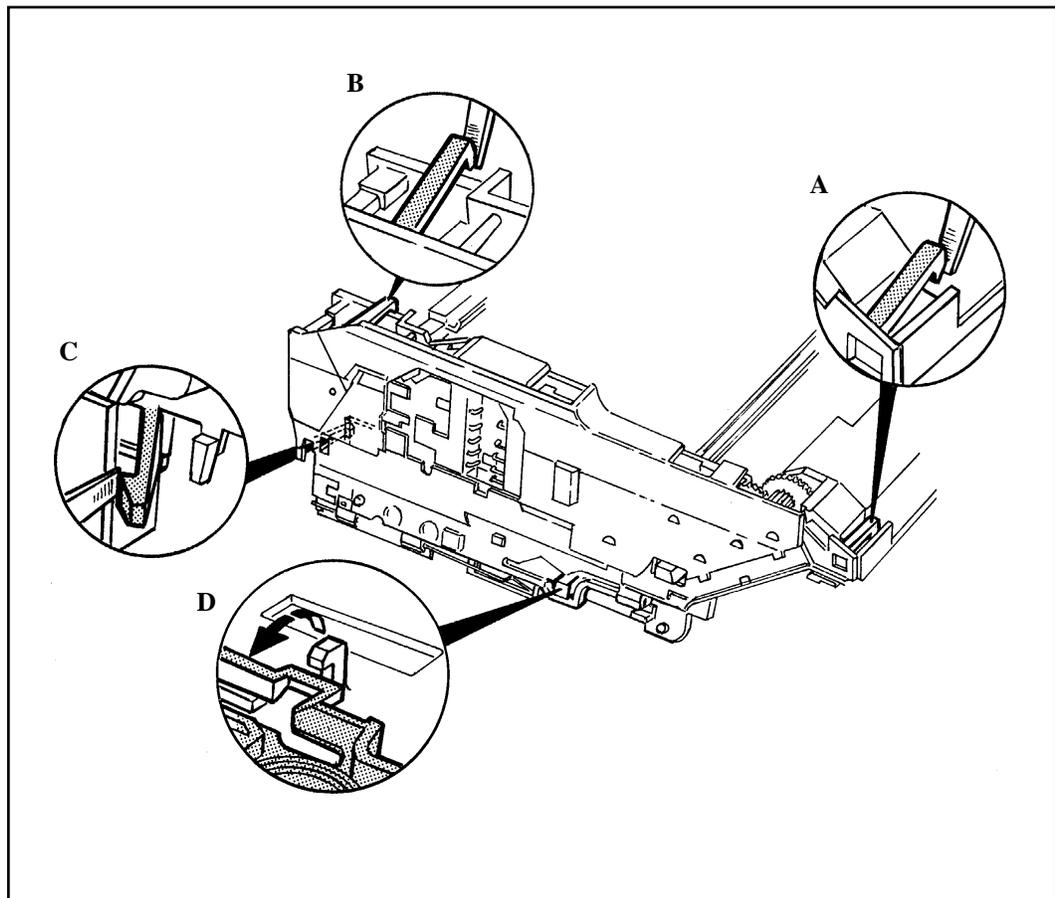

Figure 3-46. Removing Gear Drive Cover from Mainframe
- a. Using a greenstick or small flat screwdriver, remove the Gear Drive Cover by releasing locking fingers at locations **A** through **D** in Figure 3-46.